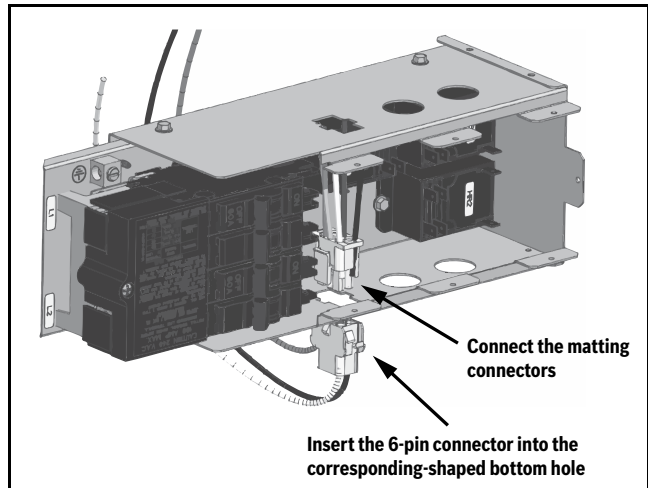

Fig. 38 Connect the Matting Connectors
1. Locate the e-heat's 6-pin connector and insert it into the corresponding-shaped hole of the e-heat control box. (→Refer to Fig. 38.)